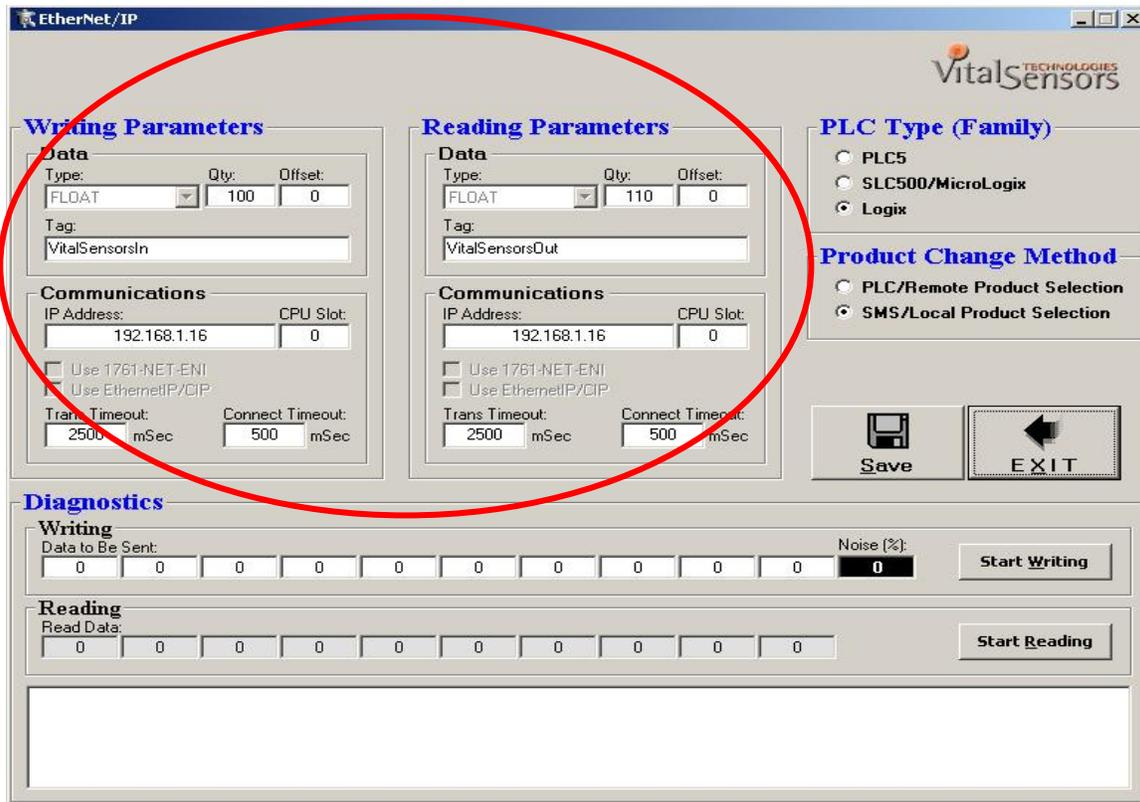

Fig. 2
- a. Enter the IP address of the Logix PLC. See *Fig. 2* below.
8. If you plan to enter product / brand ID’s into the VS-300 / VS-200 SMS, you will need to specify if product changes are handled by the PLC or VS-300 / VS-200 SMS (to avoid conflicting signals). See *Change Product Handling* in Fig. 2 below. If you plan to enter brands/products in the PLC and only use raw sensor outputs, then ignore this function.